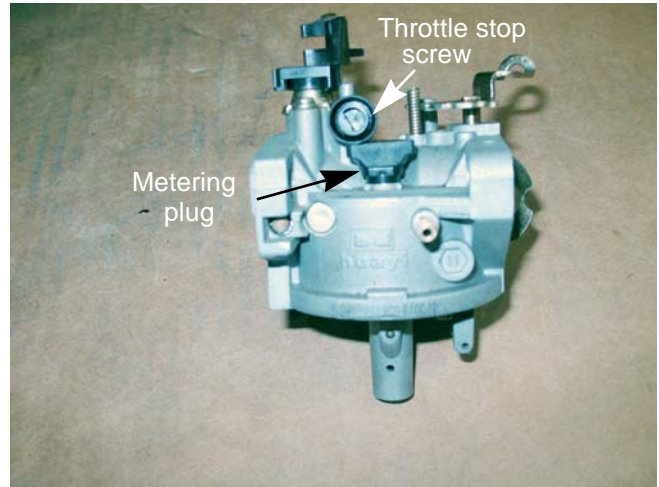

Figure 4.18
11. Carefully pry out the metering plug using a small screwdriver. See Figure 4.18.